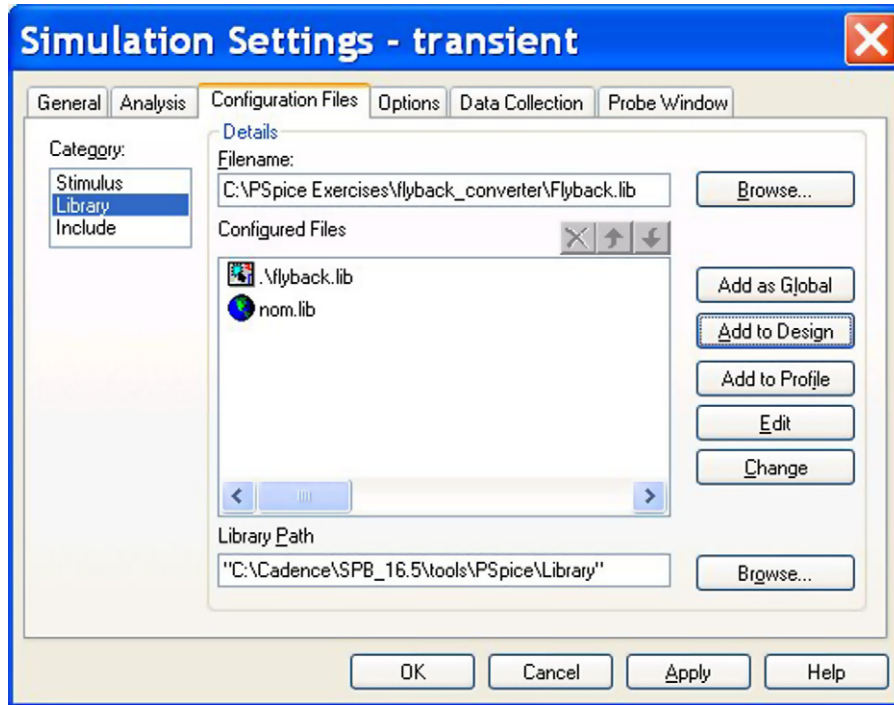

FIGURE 21.27
- You have to make the flyback.lib PSpice library available for the design. Create a PSpice simulation profile, **PSpice > New Simulation Profile**, and set up a transient analysis for 10 ms. Select **Configuration Files > Library**, browse to the flyback.lib file and click on **Add to Design** (Figure 21.27).